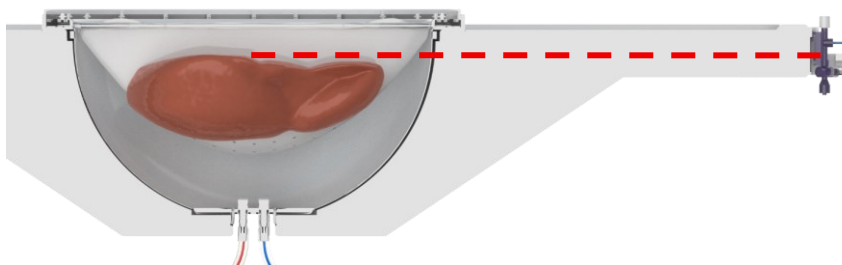

Figure 28: Height of the liver relative to the pressure sensor
- Note that the liver is supported by the net and the fluid in the reservoir. To ensure an accurate pressure measurement, align the height of the liver to the pressure sensor as shown in Figure 28. The tip of the cannula should be on the same height as the center of the pressure sensor.